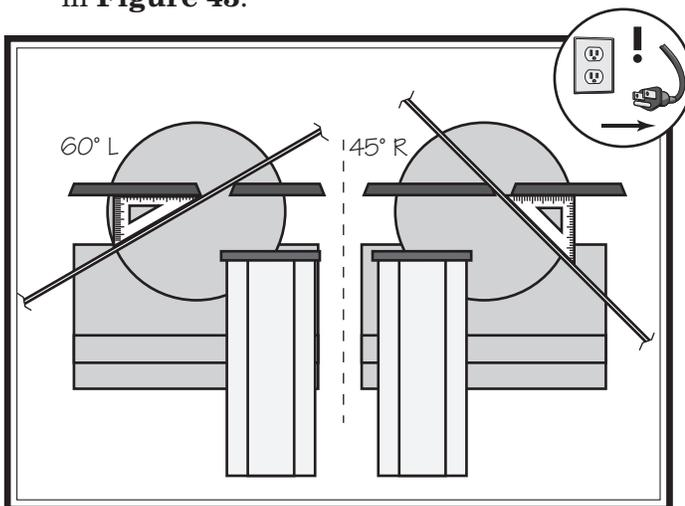

Figure 43. 60° left and 45° right stop adjustment.
- Repeat this procedure for the 60° left and 45° right stops using a 45° square and a 30°/60° triangle (or an adjustable square), as shown in **Figure 43**.